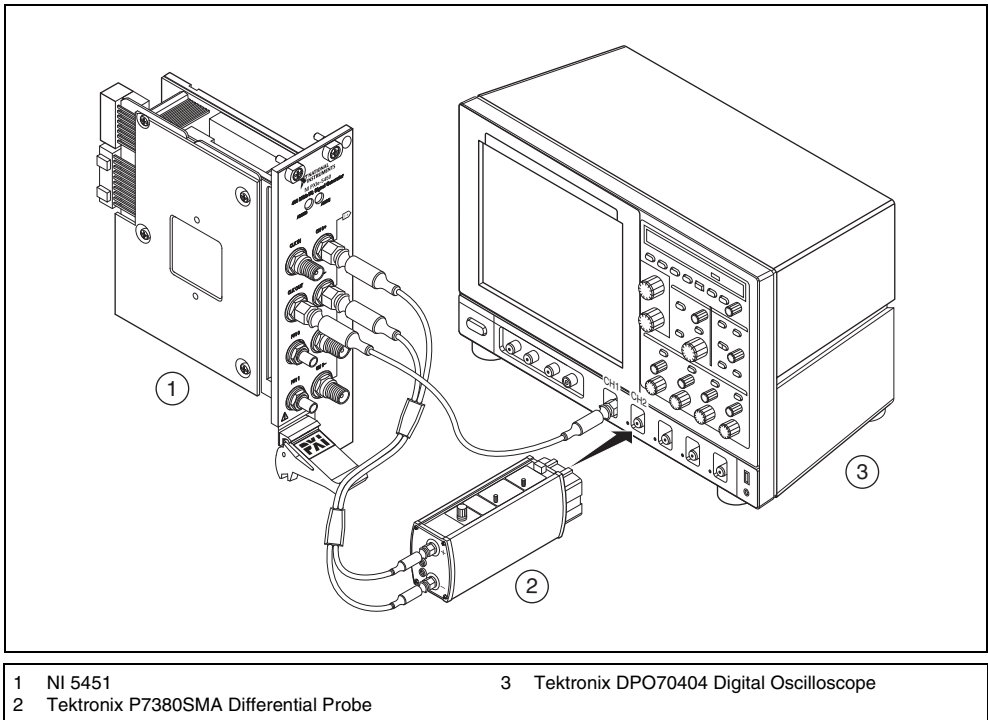

Figure 7. NI 5451 Connection to an Oscilloscope Using a Differential Acquisition Probe (CH 0)
1. Connect the devices as shown in Figure 7.